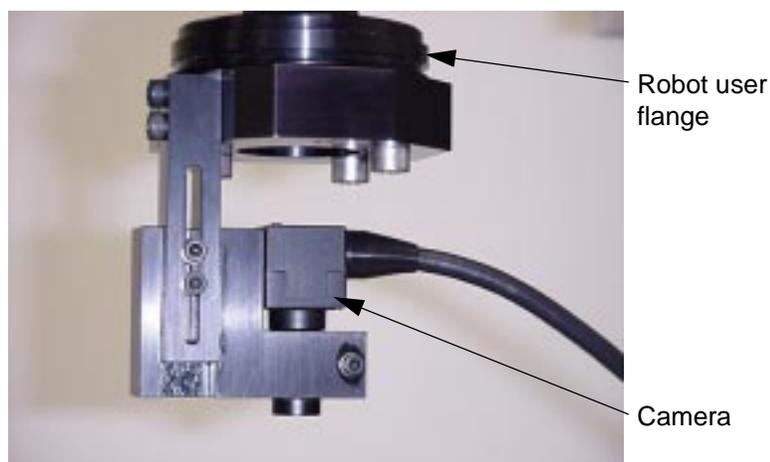

Figure 1-2. Camera Mounted Onto the Robot User Flange
3. Mount the camera mount onto the robot user flange, aligning the pin with the mating hole on the flange, and secure with three M6 screws. (See Figure 1-2 on page 21.)